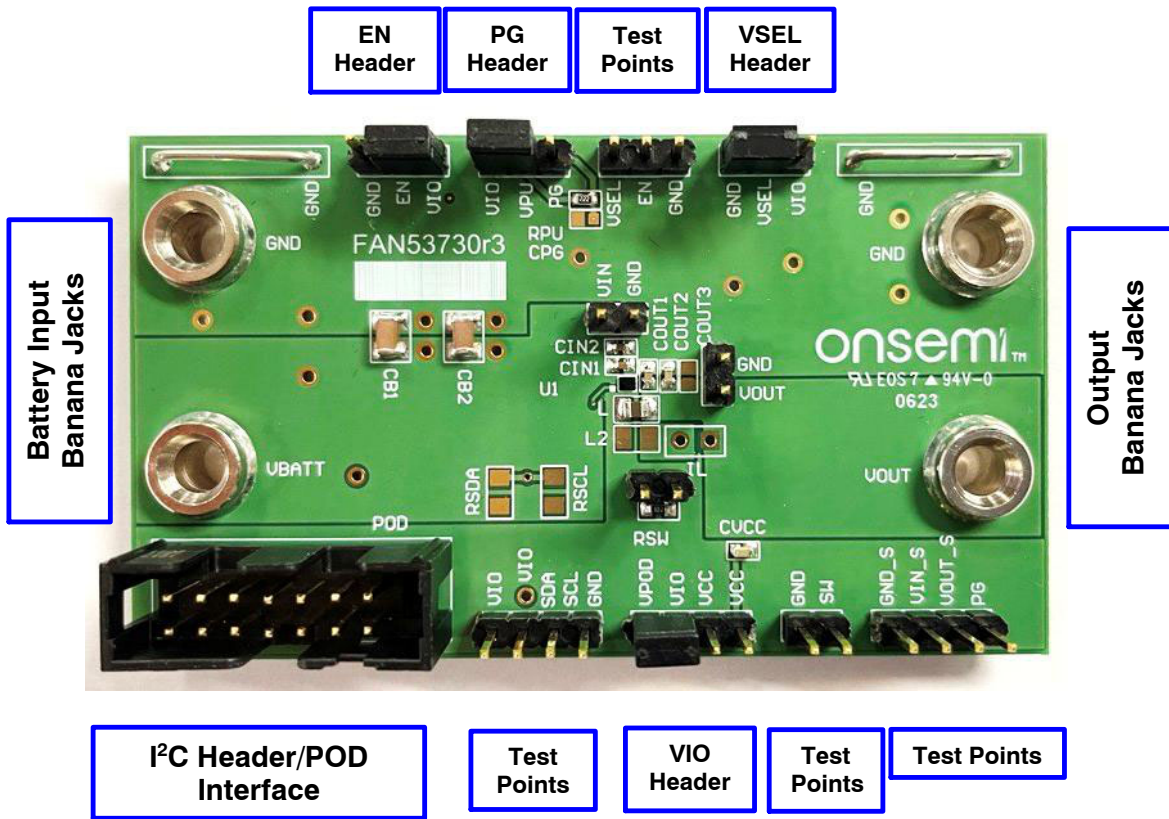

Figure 1. Evaluation Board Connection Diagram
1. Connect input power supply (2.30 V – 5.50 V) between banana jacks VIN and GND as shown in Figure 1.
2. Connect the USB Interface POD as shown in Figure 1.
4. Connect external load between banana jacks VOUT and GND as shown in Figure 1.